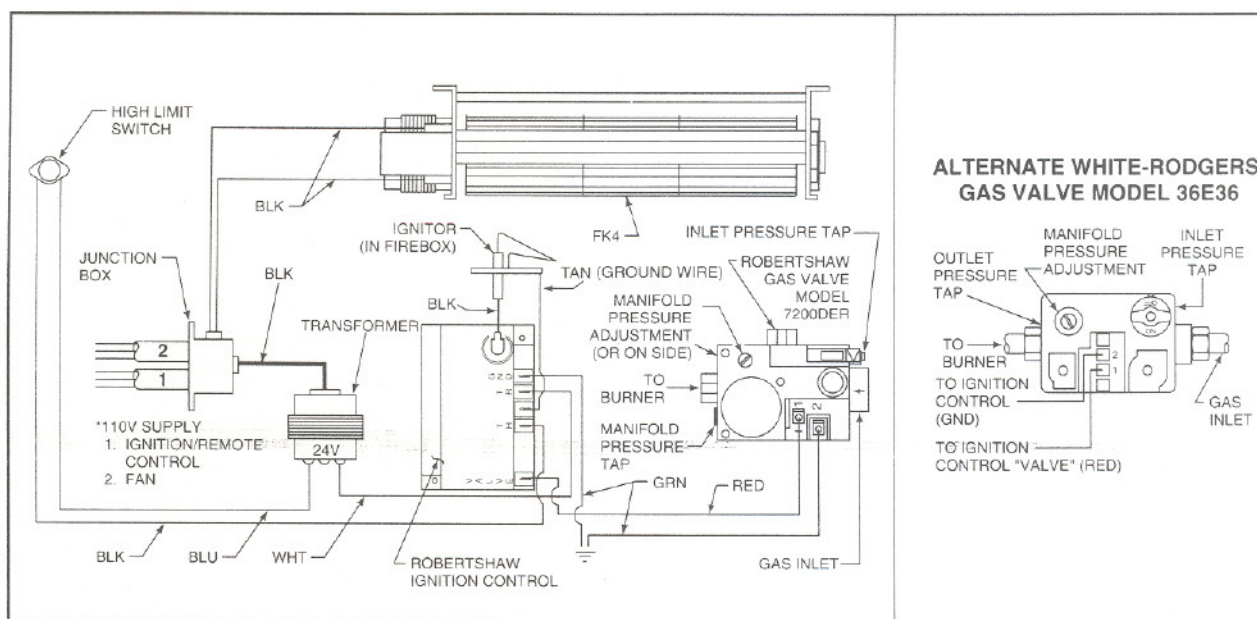

Figure 15
1. Appliance Requirements. This appliance requires a 110VAC supply from a remote wall switch to the appliance junction box for operation. A wiring diagram is shown in Figure 15.
3. Optional Accessories Requirements. Optional accessories may be added now or at a later date, however, wiring should be done now to avoid significant wall reconstruction. Two black wires are for the optional 110 volt switched fan. One black wire and the one white wire are for supplying 110 volt for ignition and for the optional 110 volt switched remote control. The optional fan kit (FK4) requires a separate 110VAC supply to the appliance junction box for operation, as shown in Figure 15, #2. In line with this junction box, you must have an on/off switch or a BC10. No additional 110VAC supply is required for the remote control (RC5). Wiring diagrams are provided with all accessories.